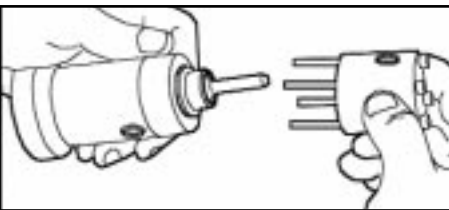

Figure 18
6. Use a 5/32" Allen wrench to remove the bottom cap screws. (Fig.18)
7. Separate the lower body section from the upper body section (Fig. 18)